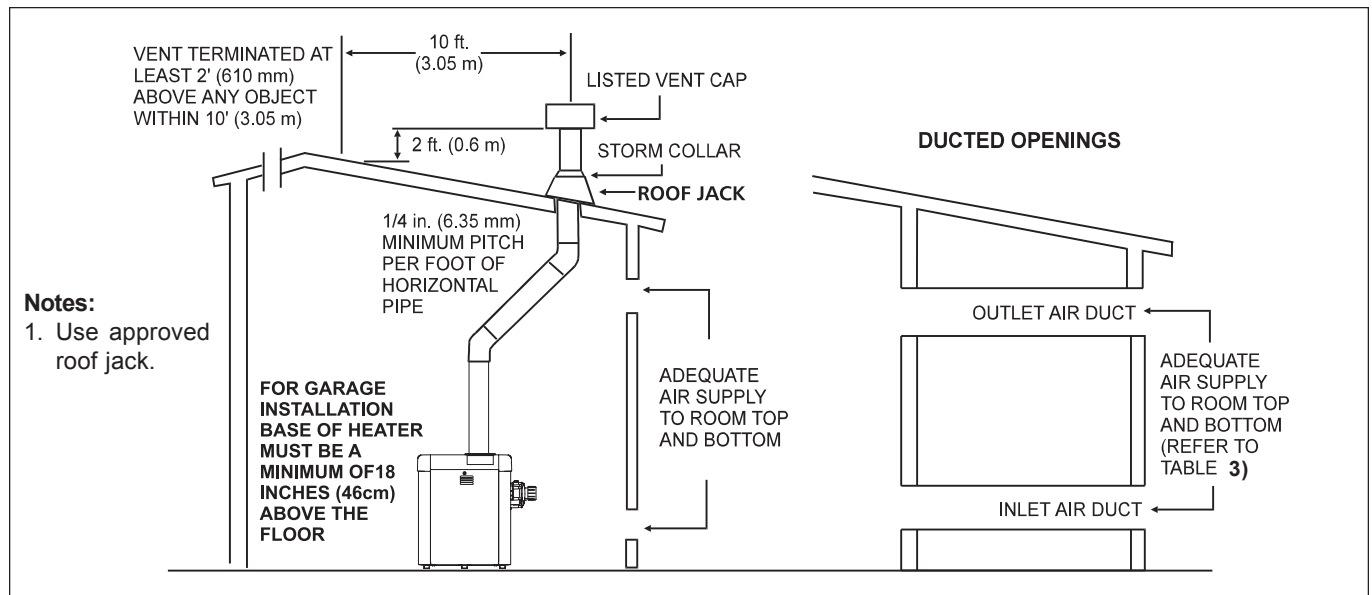

Figure 8. Indoor Installation Venting (USA), or Outdoor Shelter (Canada)
**Outside Air Supply:** When combustion air is supplied directly through an outside wall, each opening should have a minimum free area of one square inch per 4,000 BTU/h (1.2kW) input of the total input rating of all appliances in the enclosed area. If air is provided through horizontal ducts, each opening and duct must provide one square inch of flow area for each 2000 BTU/h (0.6 kW). These requirements are summarized in Table 3. Note that the areas specified are net free areas and should be increased when the openings are covered by screens, louvers, grills or other protective covers (see Figure 8 and Table 3 notes).